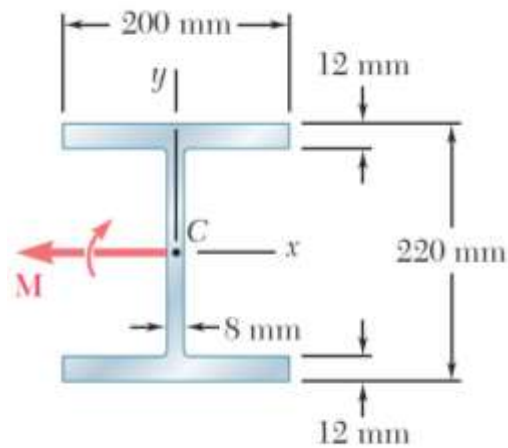

Figure Q2b
- (b) Determine the largest bending moment M that can be applied to the beam shown in Figure Q2b. Take the allowable stress as 155 MPa and neglect the effect of fillets.